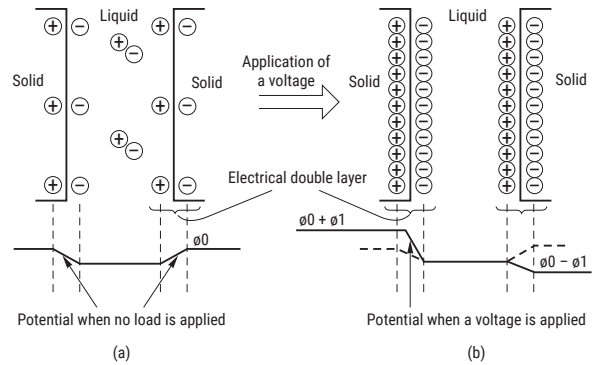

Fig. 2 Basic Structure of SuperCapacitor
Figure 2 shows a conceptual drawing of the basic structure of SuperCapacitor.
According to Helmholtz's theory, there is a potential gradient only in the electrical double layer, and their respective potential curves are as shown in Figures 2 (a) and 2 (b). In Figure 2(b), if ψ and η , when no load is applied, are ψ_0 and η_0 , respectively, then η_0 is represented by expression (2).
Then, if an external electrical field is applied, charge is accumulated on the boundary surface as shown in Figure 2 (b). At this time, suppose ψ_0 becomes ψ_1 and η_0 becomes η_1 , then η_1 is represented by expression (3).